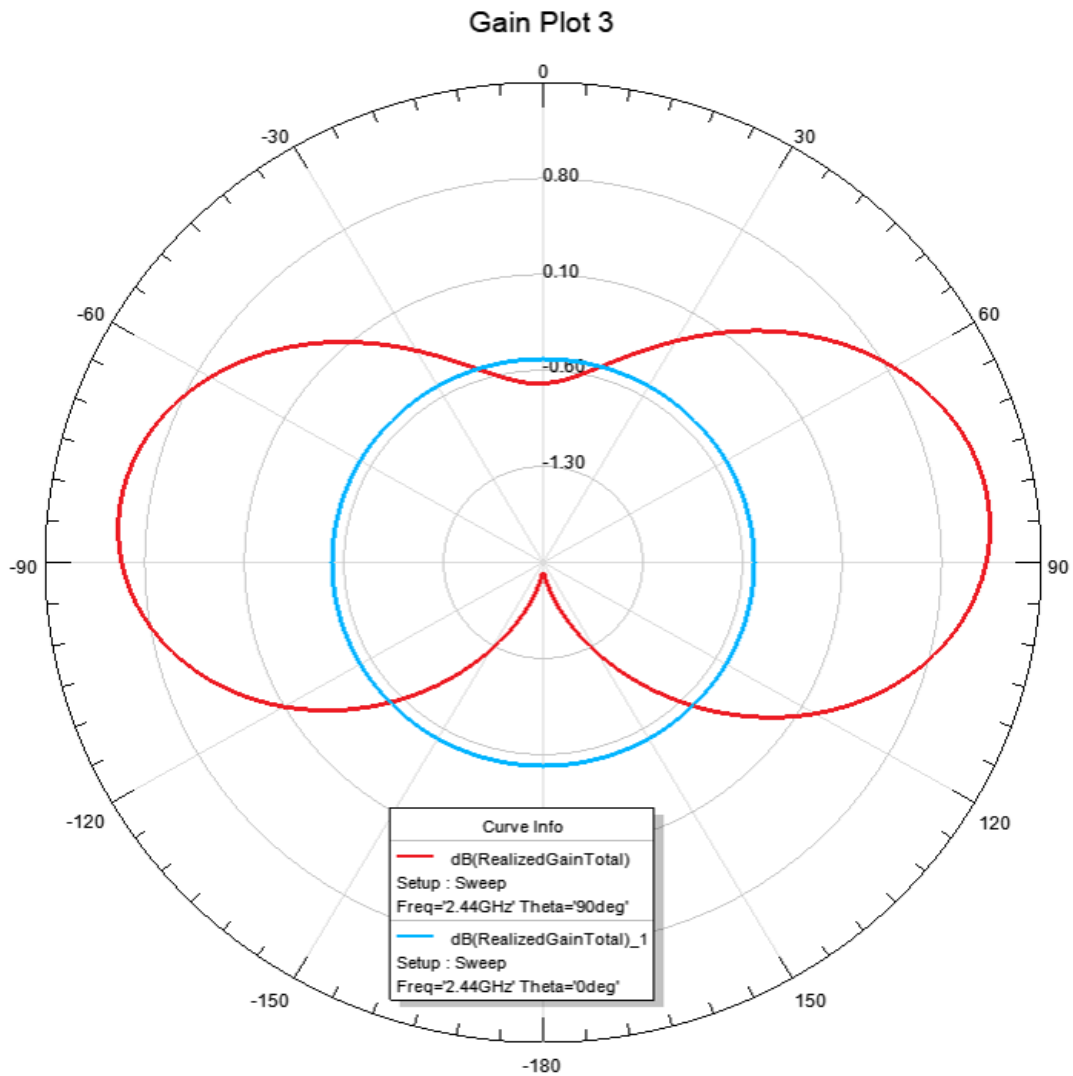

Figure 9. Realized Theta Gain Plot
- Realized Theta Gain Plot (Figure 9)